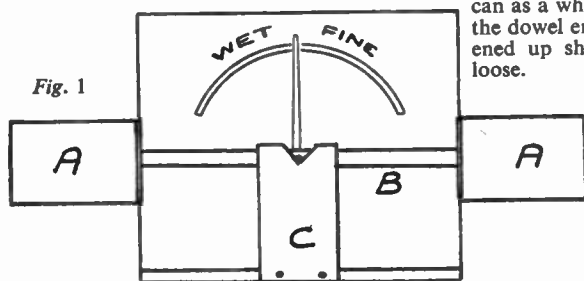
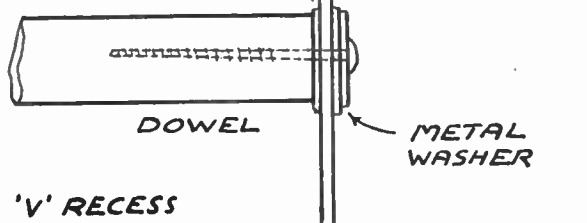

Fig. 1
Fig. 2
First cut the dial plate (A) in Fig. 1.
The gnomon, which casts the shadow on the dial is shown at (C), Fig. 2. The shape could be scribed out on to the sheet metal, and mostly cut with a hacksaw. At the top, cut out the slot shown, similar to that on the dial strip, and drill the hole, $\frac{1}{4}$ in. or more, to suit a fairly stout brass or steel bolt, for fixing the dial to its stand.
The following method might, therefore, be worth considering. Fig. 1 shows the work laid out directly on to the wood, but it might be better to make a cardboard template, especially if two or more identical pieces are required, and then mark the wood from this. First draw in centre lines *a* and *b* and then diagonals *c* at 45 degrees. If you have no set-square giving this angle, just take a piece of paper, fold it in half, then in half again, squarely across, the other way, taking care to fold accurately and then fold again as in Fig. 3. Draw in a circle *d* to the size required, and at right angles to the centre lines draw in lines *e f*, etc. You will thus have an eight-sided figure
Corners can then be chiselled off until a fair circle is obtained. A hole is drilled through the centre and with a large screw, the work is held to the side of a bench or table as in Fig. 2. The wood should turn on the screw. Now with a rasp, the work may be smoothed
First fasten the tins (A) Fig. 1 to the ends of the dowel (B) using long small-diameter screws and drilling first to prevent splitting. It is essential that the holes through which the screws go in the bottom of the tins shall be air-tight, so rubber or soft leather washers are located as shown, Fig. 2, the screws being taken home very tightly. A better job is made if the screws are soldered in the bottom of the tins. This makes the openings through which they have gone quite air-tight and means that the tins can as a whole be screwed on to the dowel ends and readily tightened up should they ever work loose.
THE ideal knife for clearing a camp site, chopping firewood and the thousand and one jobs associated with woodmanship is, undoubtedly, the *machette* (sometimes spelt with one 't'), which is a heavy knife with a long curved blade—Fig. 1. The length of this blade averages about 20ins., and the weight of the knife something like 1½lbs. It is an awkward knife to pack and carry, and many woodsmen are, therefore, content to make do with a compromise *trail* knife, which has the advantage that it can be carried in a leather sheath.
A true trail knife is shown in Fig. 2. The blade is some 10ins. to 12ins. long (just about half as long as the machette), and is stout in proportion. It weighs about 1lb. It is most effective when used with a swinging or slashing motion on account of the fact that most of the weight is concentrated in the blade. It is a tiring knife to use for 'hand' work such as chipping where the majority of the movement comes from wrist action. It is still a 'sheath knife', but rather too large and heavy to carry with comfort.